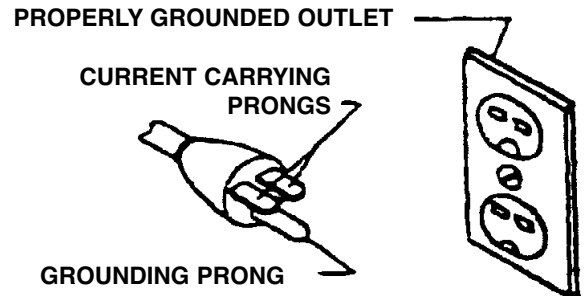

FIGURE 2
3. The 120V plug supplied with the sander must be replaced with a CSA listed plug suitable for 240V operation. This plug is illustrated in Fig.2. Contact your authorized service center or qualified electrician to install the plug and to change the connections from 120V to 240V. The sander must comply with all local and national codes after the 240V plug is installed.
4. A sander with a 240V plug should only be connected to an outlet having the same configuration as illustrated by the grounded outlet box in Fig.2. No adaptor is available or should be used for 240V operation.